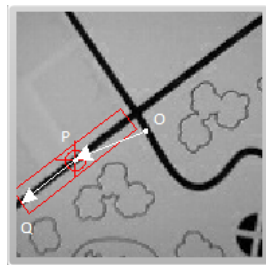

Figure 2.1: Getting vector displacement from the match information
6. Consider the case below where the straight road pattern was used with a Minimum Match Score set to 900. Assuming the manipulator's end-effector is located at the centre of the image (point O at $[64 \text{ px}, 64 \text{ px}]^T$ in Figure 2.1), how can you use the match results to get the vector displacement towards the edge of the road (point Q in Figure 2.1)? Note that the pattern matching information provides the centre of the pattern P at $[30 \text{ px}, 77 \text{ px}]^T$, it's rotation as 127° , the road in the Bigger Branch pattern is 72 pixels long, and that the centimetre to pixel conversion is 0.0275 cm/px . Calculate the displacement \vec{OQ} . Is the displacement vector consistent with the coordinate frame of the QNET Mechatronic Systems?